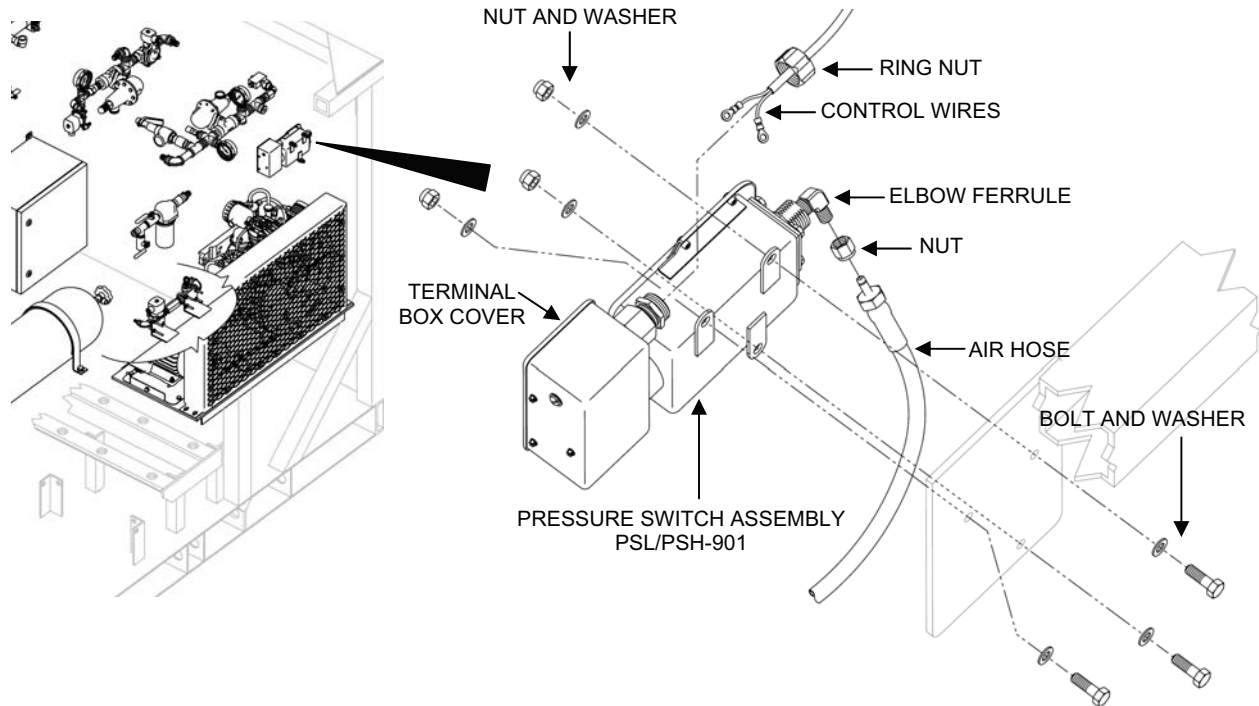

Figure 5. Pressure Switch Assembly PSL/PSH-901 Replacement.
2. Remove the pressure switch assembly as follows (see Figure 5):
3. Install the new pressure switch assembly as follows (see Figure 5):